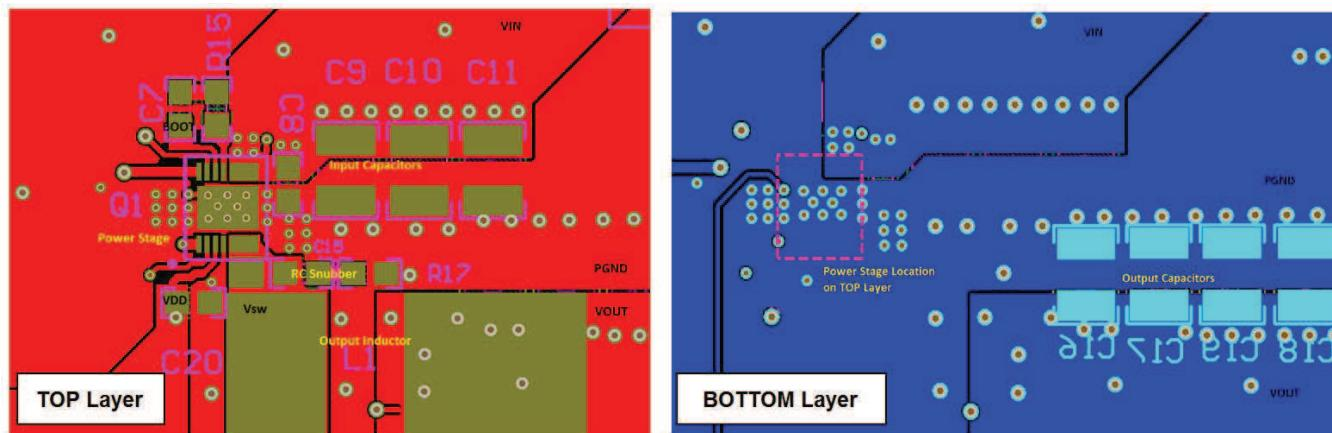

Figure 14. Recommended PCB Layout (Top Down View)
- The placement of the input capacitors relative to V_{IN} and P_{GND} pins of CSD95379Q3M device should have the highest priority during the component placement routine. It is critical to minimize these node lengths. As such, ceramic input capacitors need to be placed as close as possible to the V_{IN} and P_{GND} pins (see Figure 14). The example in Figure 14 uses 1 × 1 nF 0402 25 V and 3 × 10 μ F 1206 25 V ceramic capacitors (TDK part number C3216X5R1C106KT or equivalent). Notice there are ceramic capacitors on both sides of the board with an appropriate amount of vias interconnecting both layers. In terms of priority of placement next to the Power Stage C8, C9, C10 and C11 should follow in order.
- Use the smallest drill size allowed in your design. The example in Figure 14 uses vias with a 10 mil drill hole and a 16 mil capture pad.